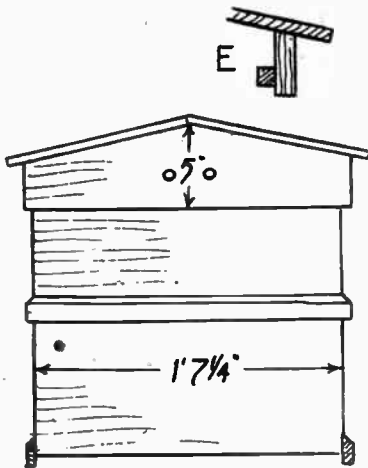
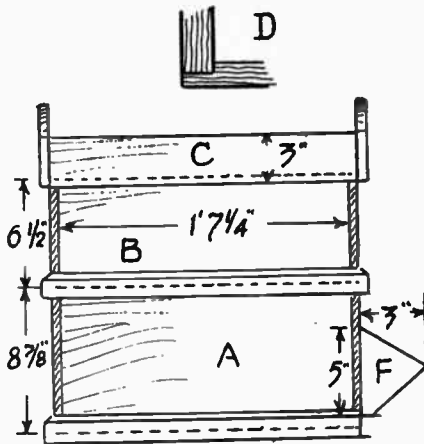

Fig. 1—Front elevation of hive
Fig. 2—Side elevation
A front elevation of the hive, less stand, is given in Fig. 1 and a side elevation in Fig. 2. From these drawings the general dimensions can be taken. The hive is in three parts (A), (B) and (C), parts (B)